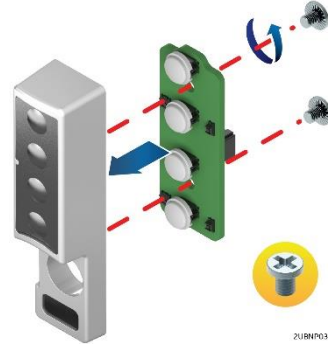

Figure 60. Installing the front control panel board
1. Install the front control panel board to the panel shell with the two screws as pictured in Figure 60.